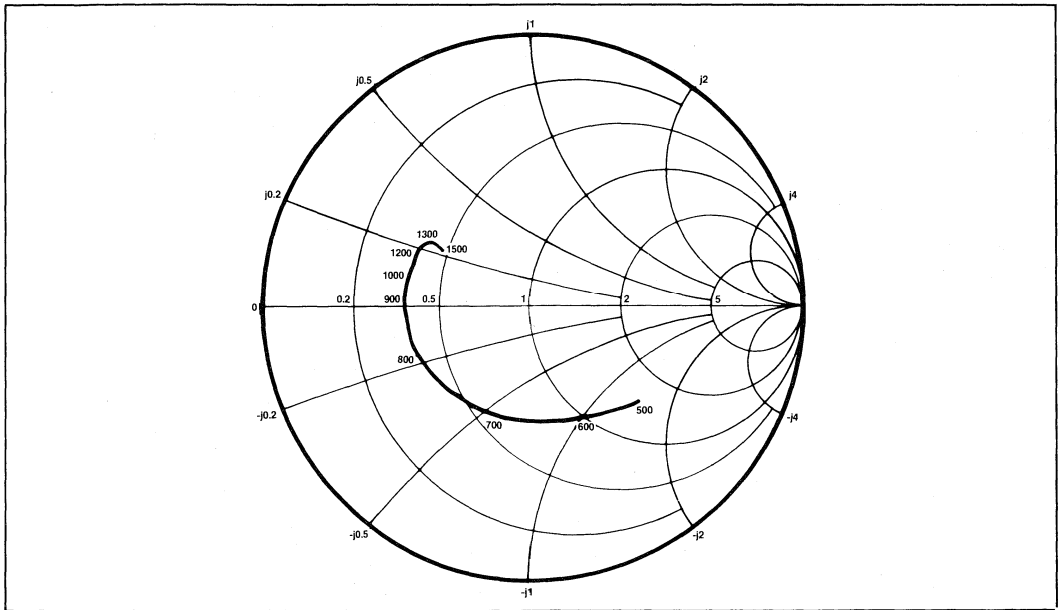

Fig.5 Typical input impedance. Test conditions: supply voltage -6.8V, ambient temperature 25°C, frequencies in MHz, impedances normalised to 50 ohms.
4. Input impedance is a function of frequency. See Fig. 5.